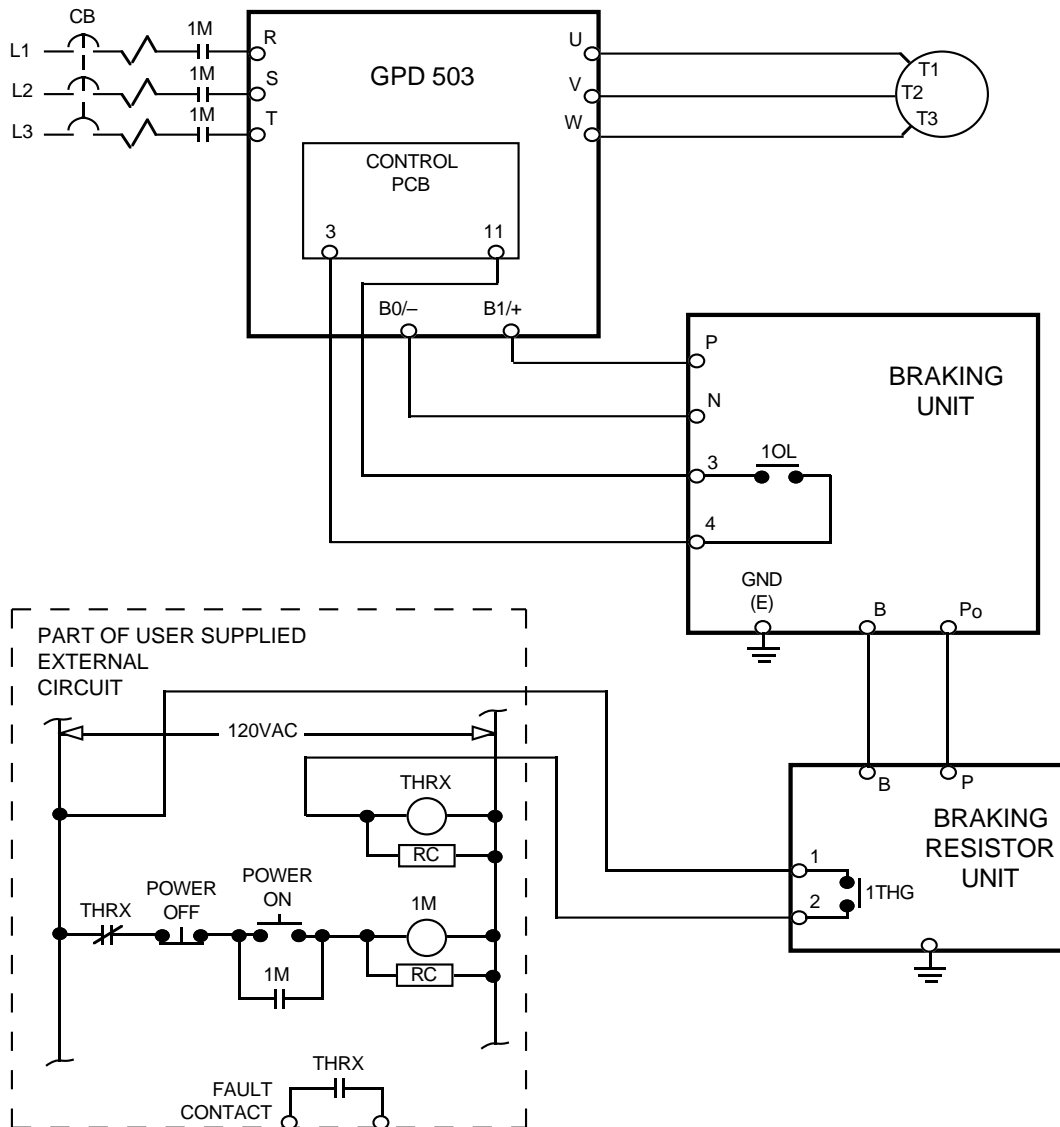

Figure A7-4. Wiring Single Braking Unit and Braking Resistor Unit to Drive (230V 15-30HP(CT), 460V 25-60HP(CT), 575V 30-50HP(CT))
5. If a single Braking Unit and Braking Resistor Unit are being installed, connect them to the drive and external control circuitry according to the chart below and Figure A7-4.